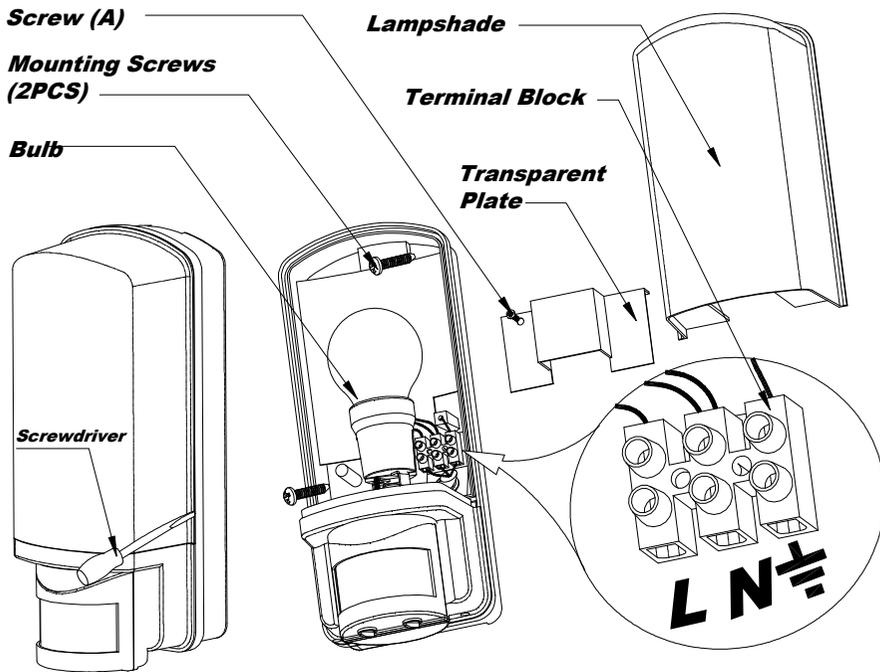

Fig. 2 Mounting and Wiring to Terminal
Installation the bulkhead light, please referring to the Fig.2
4. Unscrew the Screw (A) and remove the Transparent Plate.
6. Connecting the main power wires to the Terminal Block (see the relative symbols—Fig.2), the Cable must pass through the Wiring Rubber Gasket.